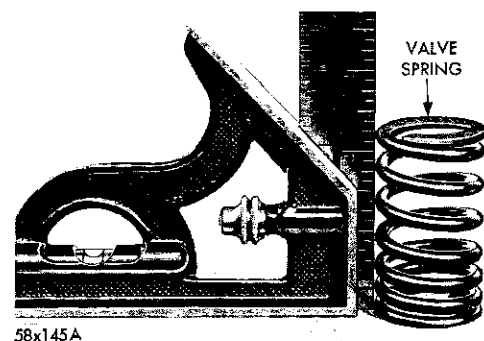

Fig. 14—Inspecting Valve Spring Squareness
(2) Inspect each valve spring for squareness at both ends with a steel square and surface plate, as shown in Figure 14.
(3) If the spring is more than  $\frac{1}{16}$  inch out of square, install a new spring.